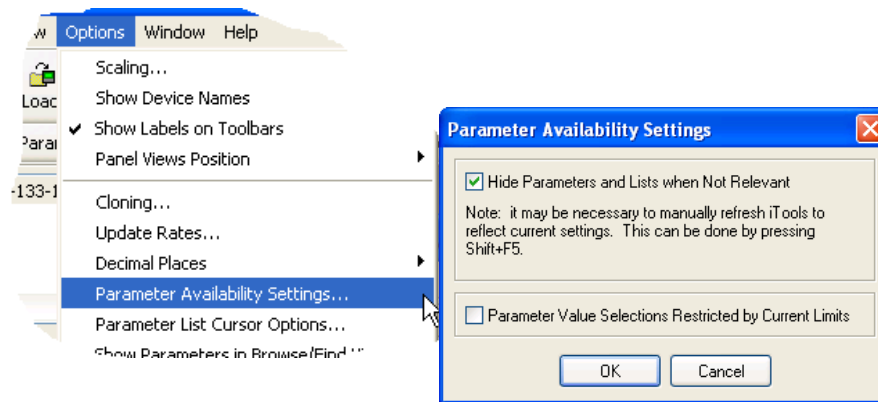

Figure 7.4.1b Show/Hide parameters
- Hidden Parameters. By default, iTools hides parameters which are considered irrelevant in the current context. Such hidden parameters can be shown in the table using the 'Parameter availability' settings item of the options menu (figure 7.4.1b). Such items are displayed with a shaded background.